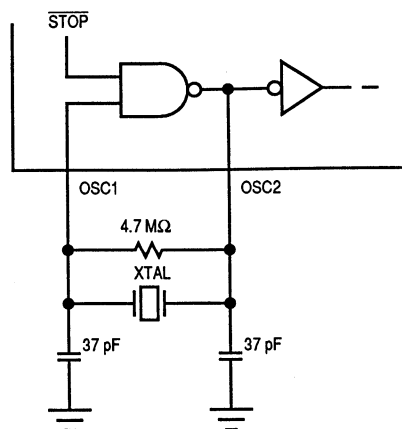

Figure 2-2. Crystal/Ceramic Resonator Connections
- A crystal (Refer to Figure 2-2.)
- A ceramic resonator (Refer to Figure 2-2.)
The circuit in Figure 2-2 shows a typical crystal oscillator circuit for an AT-cut, parallel resonant crystal. Follow the crystal supplier's recommendations, as the crystal parameters determine the external component values required to provide maximum stability and reliable starting. The load capacitance values used in the oscillator circuit design should include all stray layout capacitances. Mount the crystal and components as close as possible to the input pins to minimize output distortion and start-up stabilization time.
A ceramic resonator can be used in place of the crystal in cost-sensitive applications. The circuit in Figure 2-2 can be used for a ceramic resonator. Follow the resonator manufacturer's recommendations, as the resonator parameters determine the external component values required to provide maximum stability and reliable starting. The load capacitance values used in the oscillator circuit design should include all stray layout capacitances.